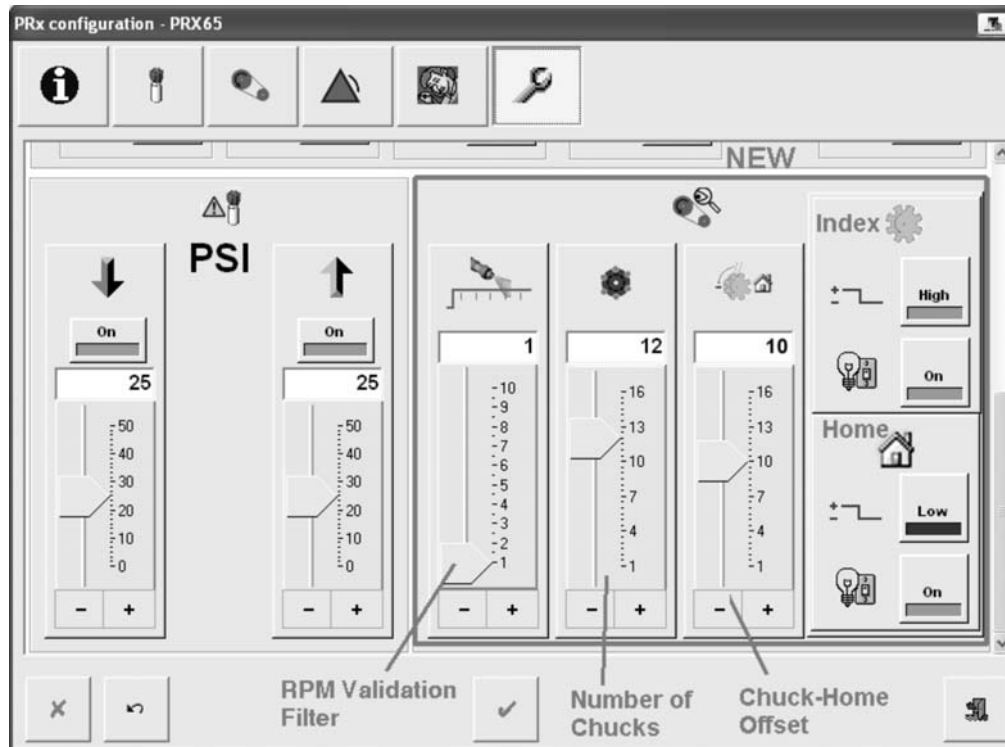

Figure 9 PRx II Configuration Service Screen (for the case in Figure 8)
3. See Figure 9. Through the iTRAX OI, go to the PRx configuration *Service Screen* to customize the settings for *Chuck-Home Offset*.
To be sure that the alarms correspond with the correct readings at a chuck spinner, the *RPM Validation Filter* (shown in Figure 9) allows the PRx II module to differentiate between readings that are taken before the chuck spinner has had enough time to reach the desired spin speed. The *RPM Validation Filter* defines which RPM measurement is the first to be accepted and applied to the alarm criteria during the spray duration. The *RPM Validation Filter* number and all the readings following that number for the duration of the spray cycle are applied against the alarm criteria.